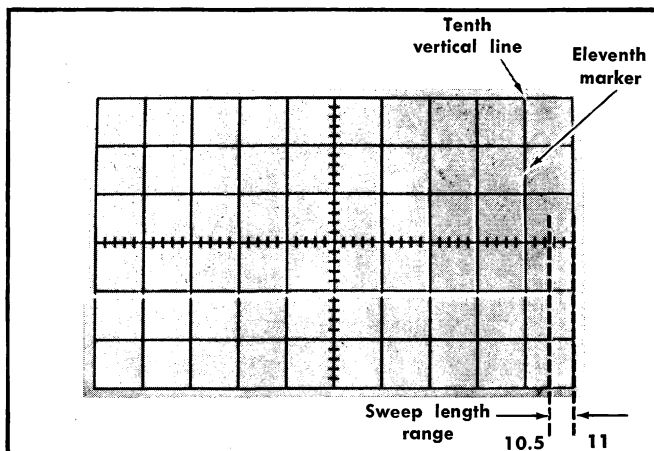

Fig. 5-17. Adjusting sweep length and centering. Typical waveform.
- d. ADJUST—R702, X1 Gain (see Fig. 5-16A for location) for one marker per division over the center eight divisions. The first and ninth markers must coincide exactly with their respective graticule lines (reposition horizontally as needed). See Fig. 5-17.
- b. Set the tenth marker (see Fig. 5-17) to the tenth vertical graticule line.